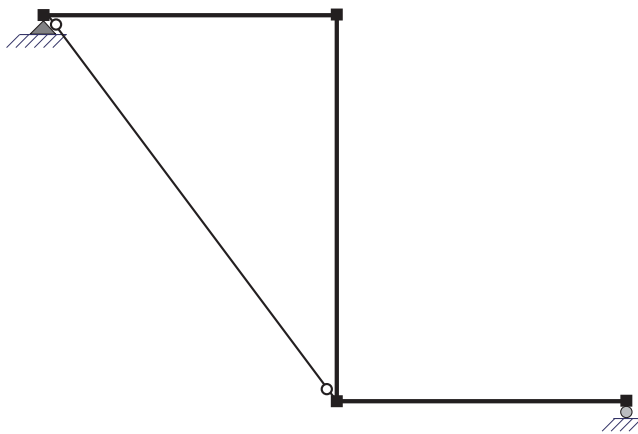

Figure 2: Bending moment distribution
1. Draw the bending moment distribution in Fig. 2.